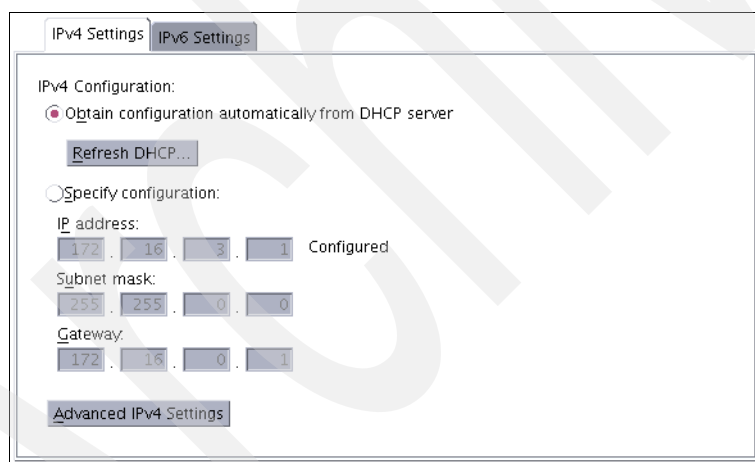

Figure 13-14 IPv4 address settings
4. On the IPv4 Settings tab (Figure 13-14), click **Obtain configuration automatically from DHCP server** if the host port address will be assigned dynamically through DHCP. To ensure that the host ports always receive the same IP address, you should configure your DHCP server to use MAC addresses as the base for the fixed IP address assignment.